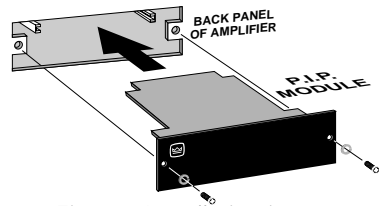

Fig. 3.2 Installation into a Standard *P.I.P.* Amplifier
3. *Standard P.I.P. Amplifiers:* Align the edges of the *P.I.P.-PA* in the *P.I.P.* card rails and firmly push the unit in until it is seated against the mounting bracket (see Figure 3.2).